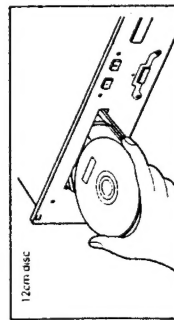
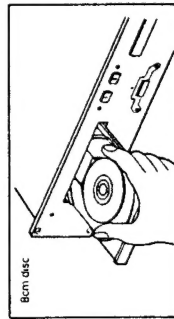

Figure 6
Figure 7
- ① **Opening and closing the disc holder**
- ② **Loading discs**
- When using 12cm discs, place the disc in the outer tray guides (Figure 6), and when using 8cm discs, place them securely in the inner guides (Figure 7).